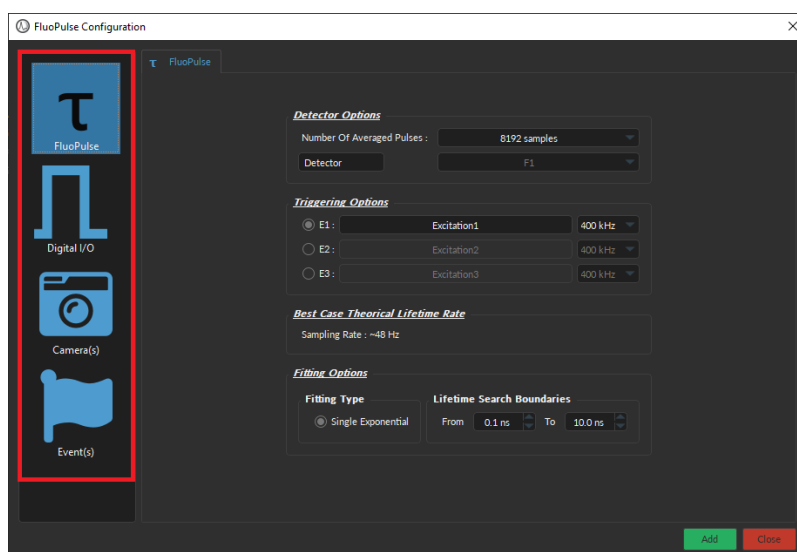

Figure 12.7: Channel(s) configuration window, select channel type
1. The **Add Channel** button opens the **Channels configuration** window (Fig. 12.7), where it is possible to add several different types of channels. Table 12.1 describes the available channels types, their use cases, and their sections.